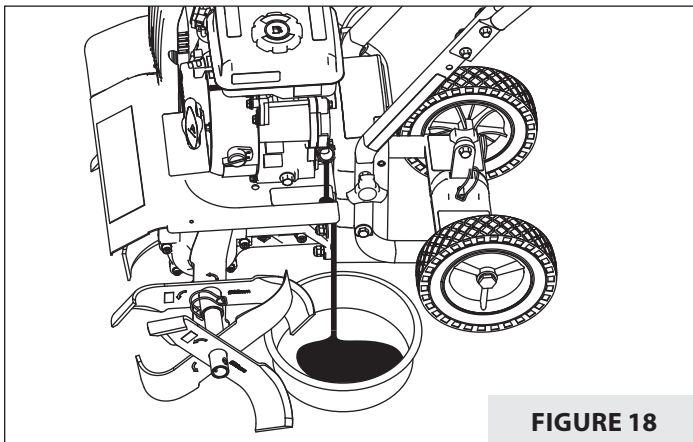

FIGURE 18
1. To change the oil, first remove the left side shield from the tiller. Then lock drag stake into deepest position and gently tip tiller to the left, resting it in a tilted position on its left outer tine, wheel, and drag stake. Remove oil fill plug with the tiller resting in the tilted position until all of the oil has been drained into an appropriate receptacle. **SEE FIGURE 18.** Wipe up any spilled oil residue and dispose of oil properly according to local laws and/or ordinances.